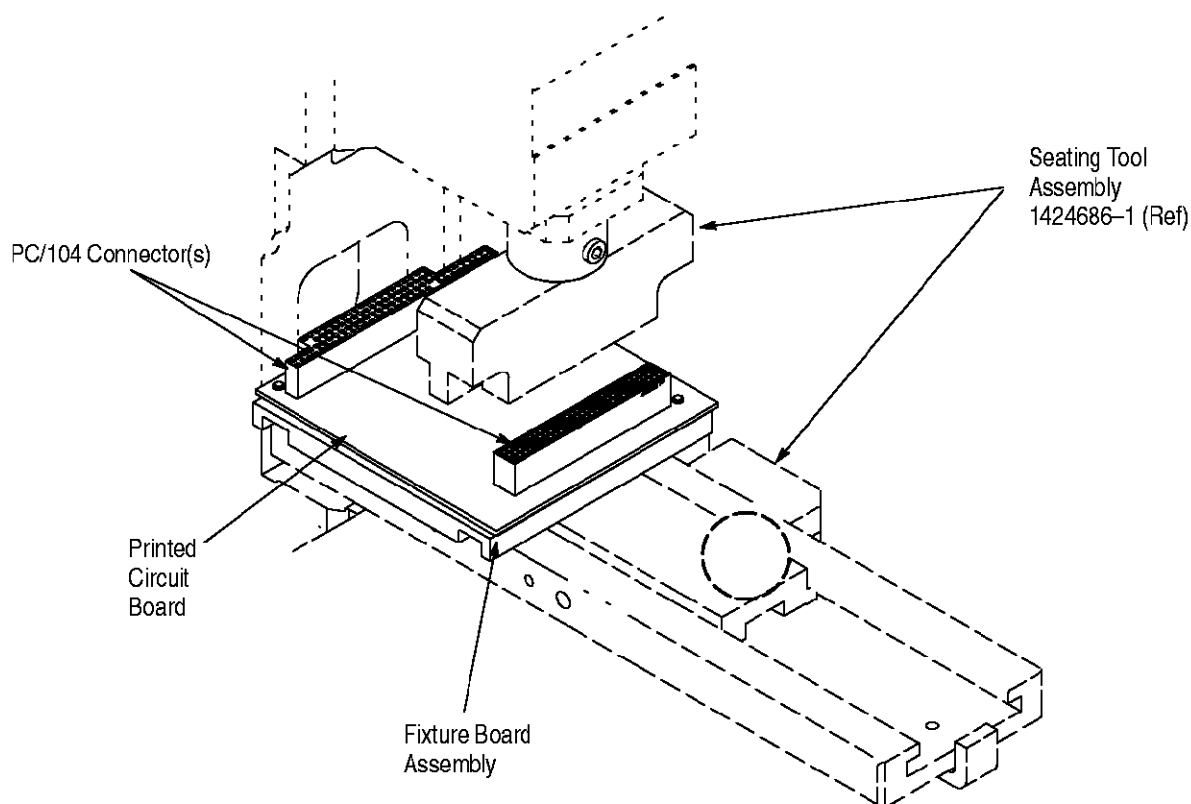

Figure 2
4. Place the connector(s) on the pc board as shown in Figure 2.